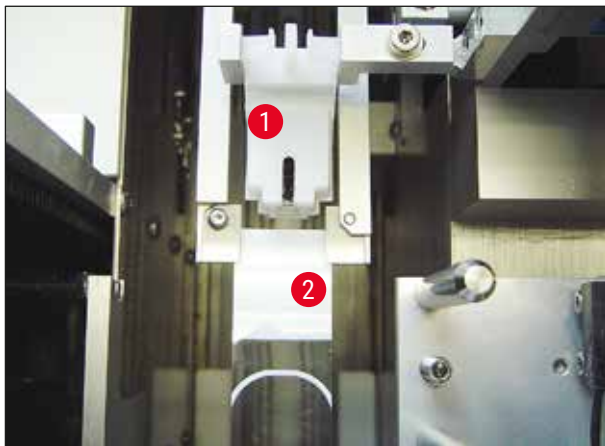

Fig. 24
1. Finally, ensure that the gripper (→ Fig. 24-1) does not collide with the dispenser needle cleaner (→ Fig. 24) during its movement or that of the transported specimen slide (→ Fig. 24-2).